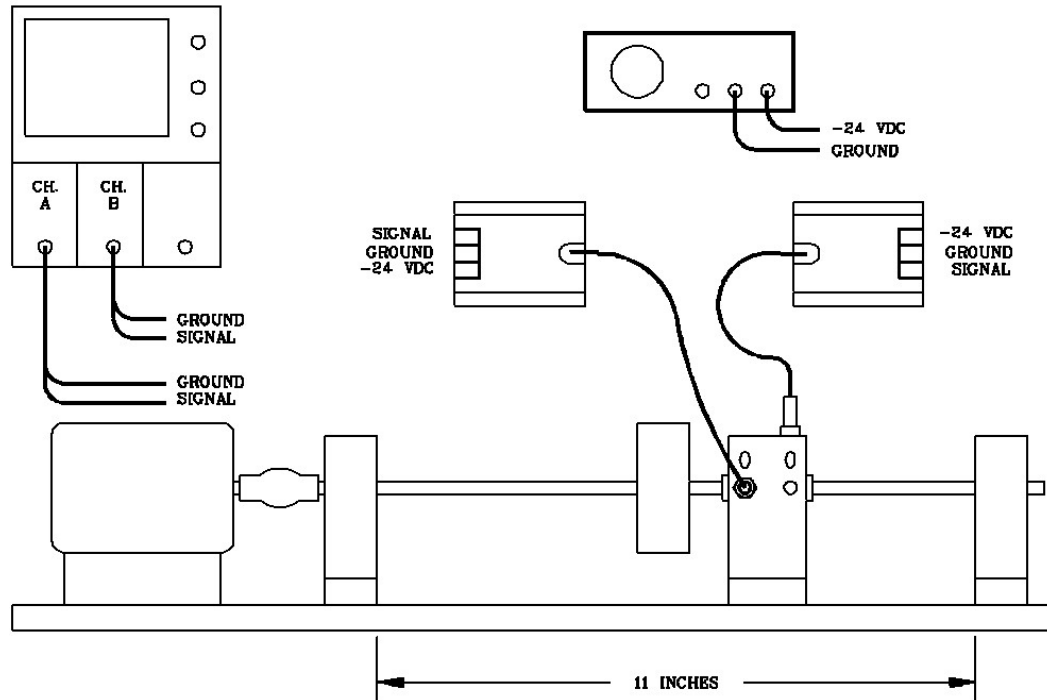

Fig. 2.1
Assemble the demonstration rotor using two (2) sleeve bearing assemblies as shown in Figure 2.1. Install two (2) transducers in the mounting bracket with one transducer in the vertical position and another in the horizontal position.